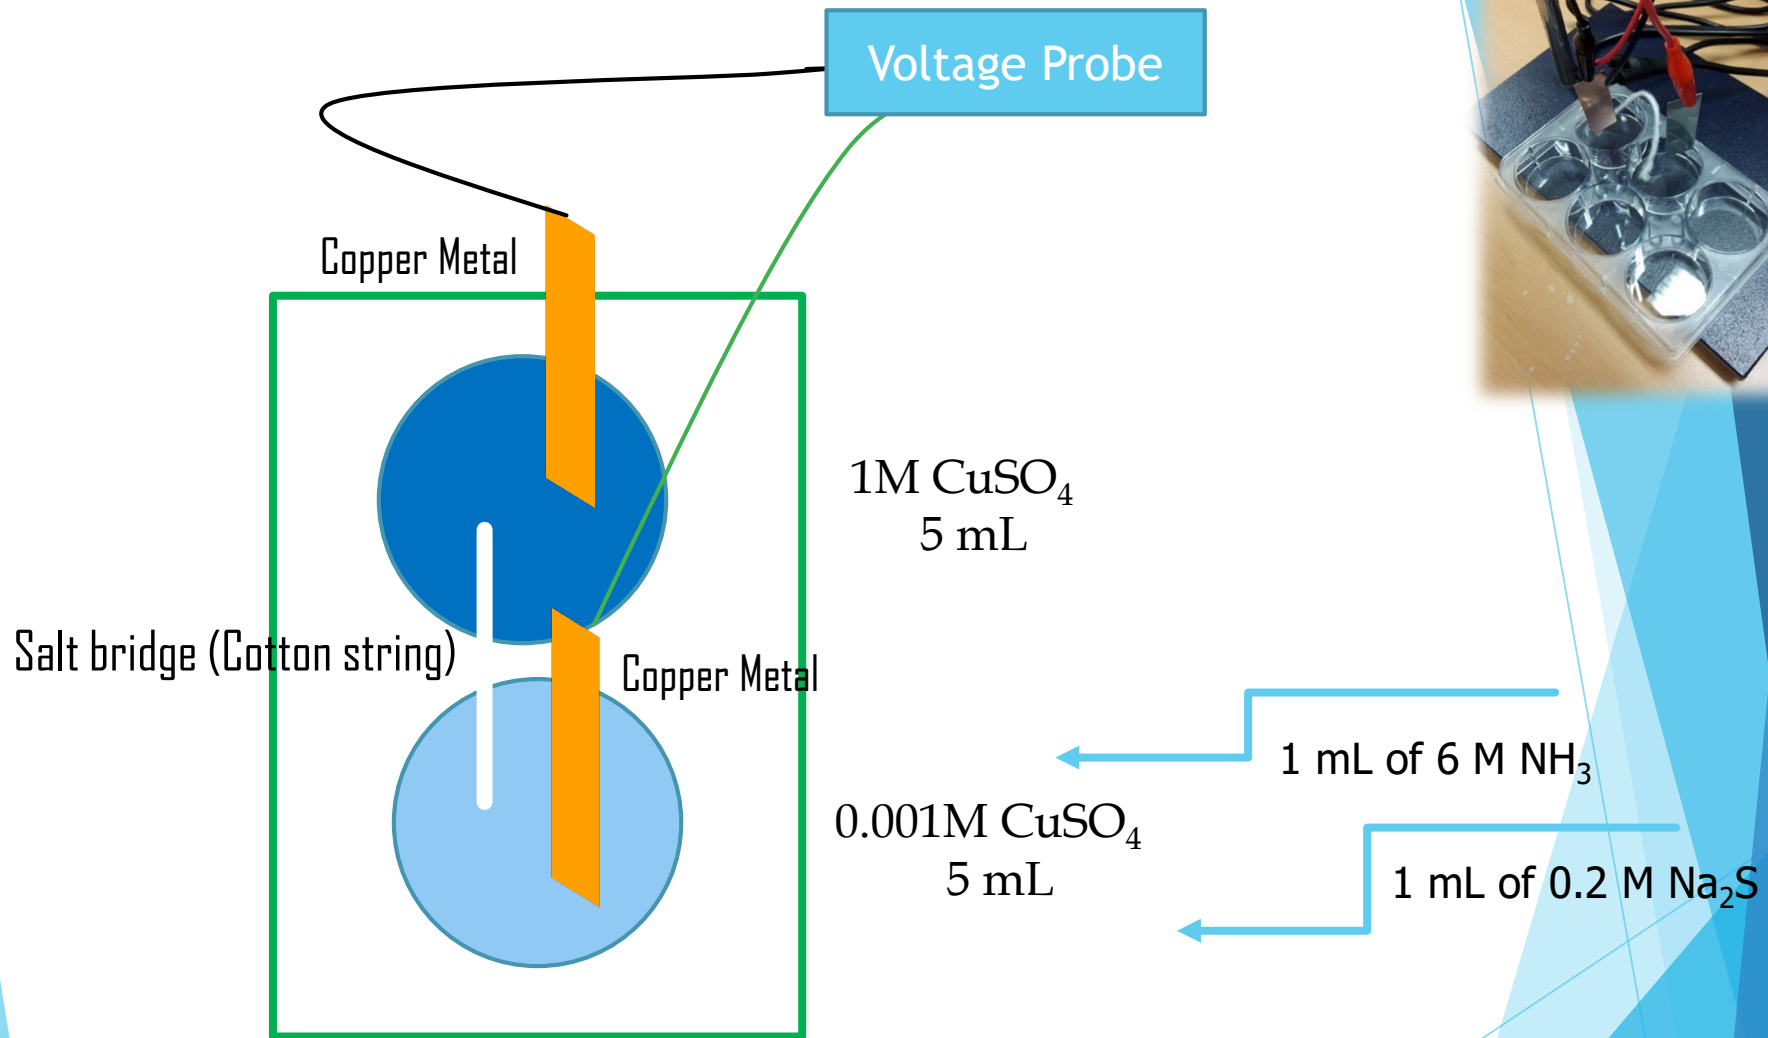

Figure 32.5 Setup for measuring the cell potentials of a Cu^{2+} concentration cell
- 1) Set up the galvanic cell shown in Figure 32.5, using 1 M CuSO_4 and 0.001 M CuSO_4 solutions. Immerse a polished copper electrode in each solution. Prepare a salt bridge (Part A.2) to connect the two half-cells.